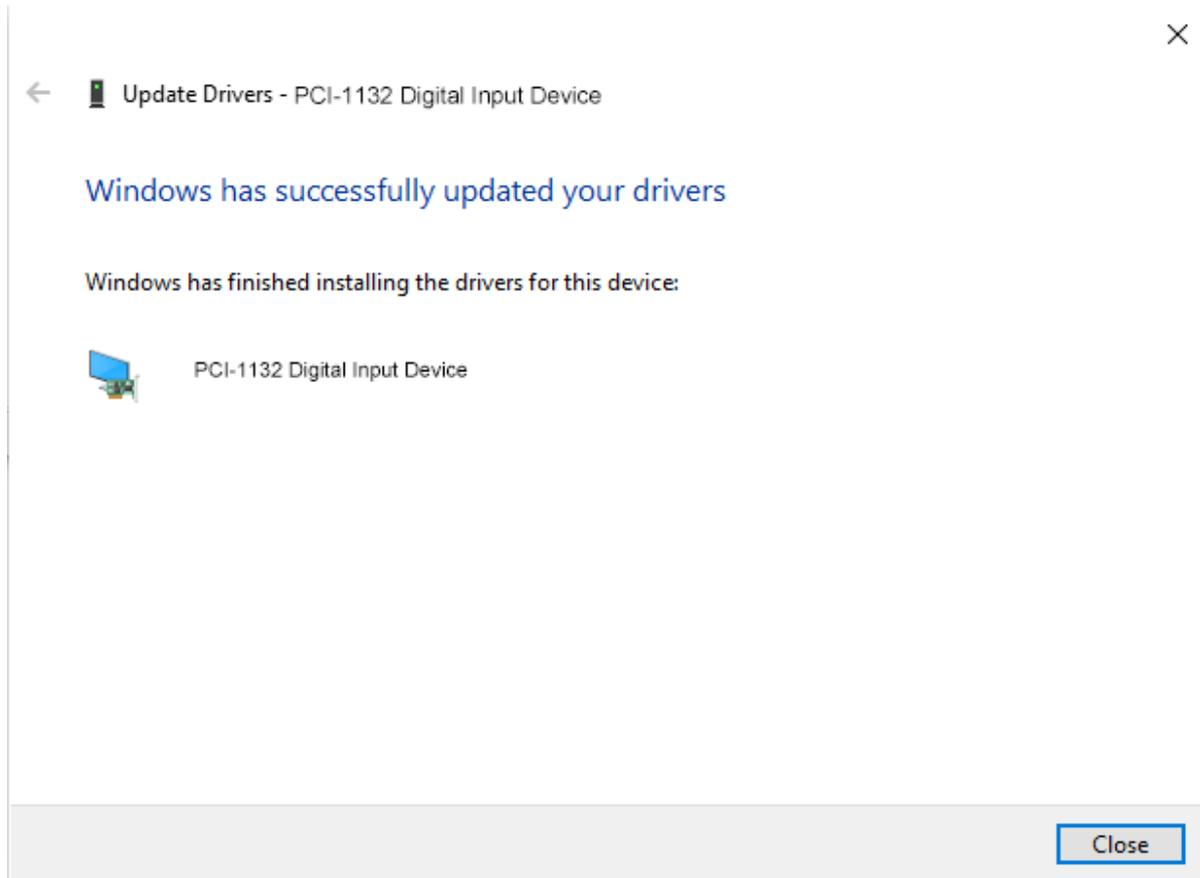

Figure 2.6 Driver installation is complete.
- 4) The computer starts to enter the driver installation process. After the installation is successful, the dialog box shown in Figure 2.6 below pops up, and the driver installation is completed.